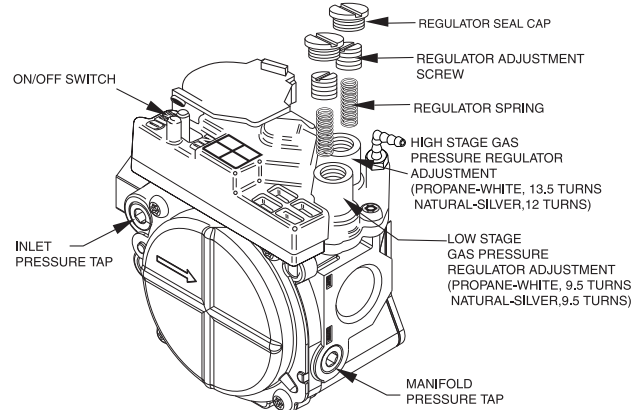

Fig. 29 - Two-Stage Gas Valve
1. Refer to Fig. 29.
3. Remove caps that conceal adjustment screws for high-heat and low-heat stage gas valve regulators. See Fig. 29.
8. Turn high-heat stage adjusting screw clockwise (in) 13.5 full turns. This will increase the manifold pressure closer to the propane high-heat set point. See Fig. 29.
9. Turn low-heat stage adjusting screw clockwise (in) 9.5 full turns. This will increase the manifold pressure closer to the propane low-heat set point. See Fig. 29.